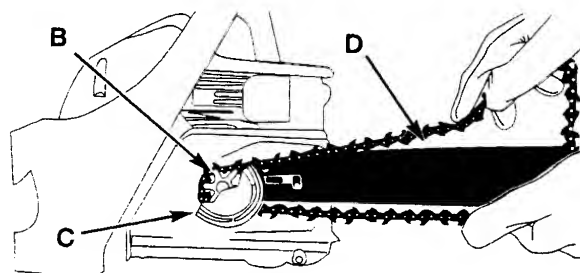

Fig. 21
2. Slip the chain around the sprocket (B) behind the clutch (C). Make sure the links fit between the sprocket teeth (Fig. 21).
3. Guide the drive links into the groove (D) and around the end of the bar (Fig. 21).